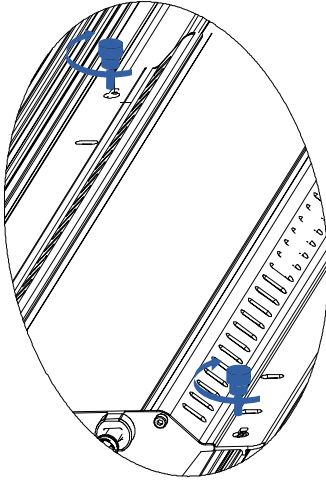

Fig. 8
d. Once the driver is in position, make sure to screw in the 2 orange driver fasteners (Part E). This step is important to secure the driver in place, see Fig. 8.